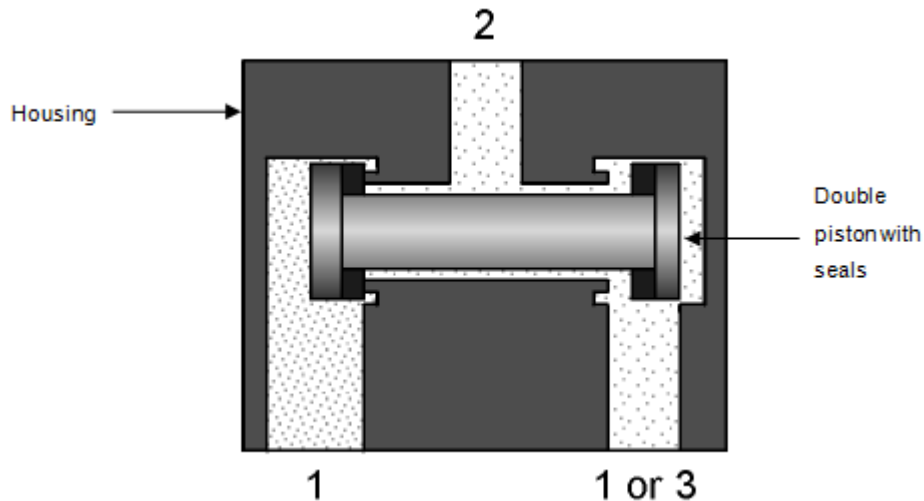

FIG 3.
A. The dual pressure valve consist of the following components: (Fig 3)